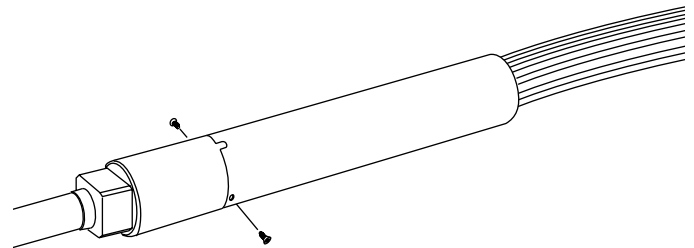

Figure 19
5.8 Slide the shell into place over the body of the fan-out. Secure the shell to the fan-out body with the two screws provided (Figure 19). Install the connectors according to the manufacturer's instructions.